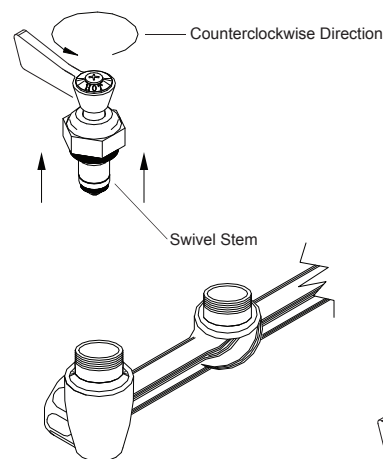

Fig.1 (Removal of Swivel Stem)
2. Remove the bibb cap (see Fig.1) by turning it counterclockwise (May require crescent wrench)